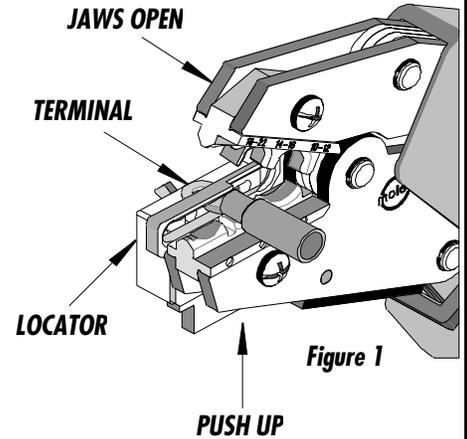

Figure 1
1. Push up on the locator blade and position the terminal with the barrel facing up into the color-coded nest, centering the barrel in the lower jaw as shown in Figure 1. Release the locator blade to hold the terminal in position.